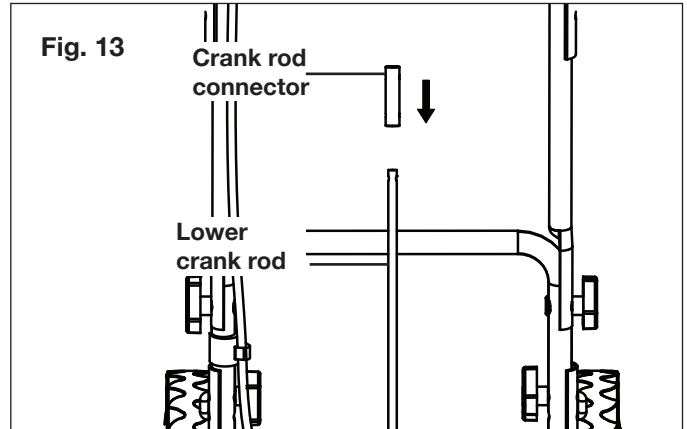

Fig. 13
4. Slide the crank rod connector over the top of the lower crank rod (Fig. 13).